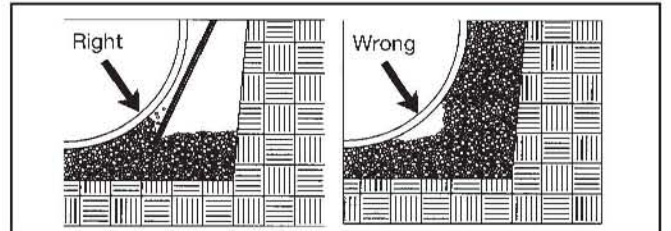

FIGURE 5-1
- 5.2.16.1. Use a nonmetal tamping rod long enough to reach beneath the tank to push material under the tank body and domes until solid resistance is felt, all voids are filled and the tank is fully supported. See FIGURE 5-1.